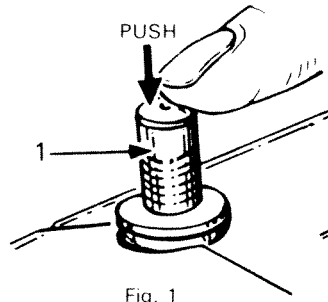

Fig. 1
- A perfect straight stitch will be formed with both threads interlocking in fabric as shown in Fig. 1.